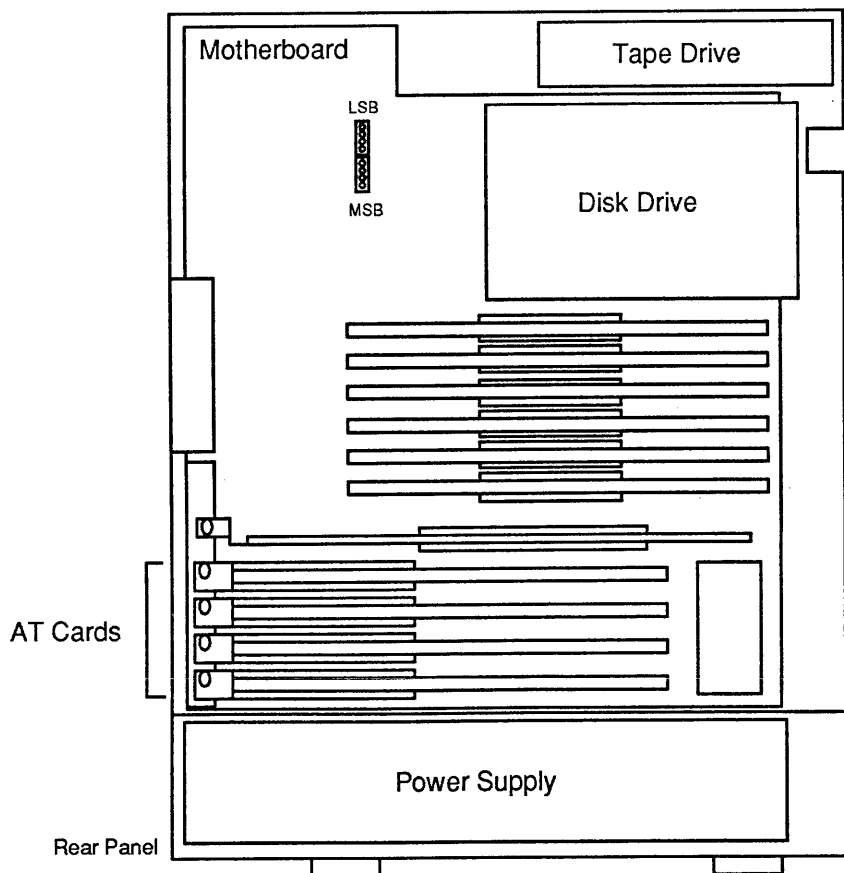

Figure 2.6. Location of AT Card Slots
1. Remove the Expansion Slot cover for the slot in which you want to install an AT Card by removing the screw. The four AT card slots are shown in Figure 2.6.